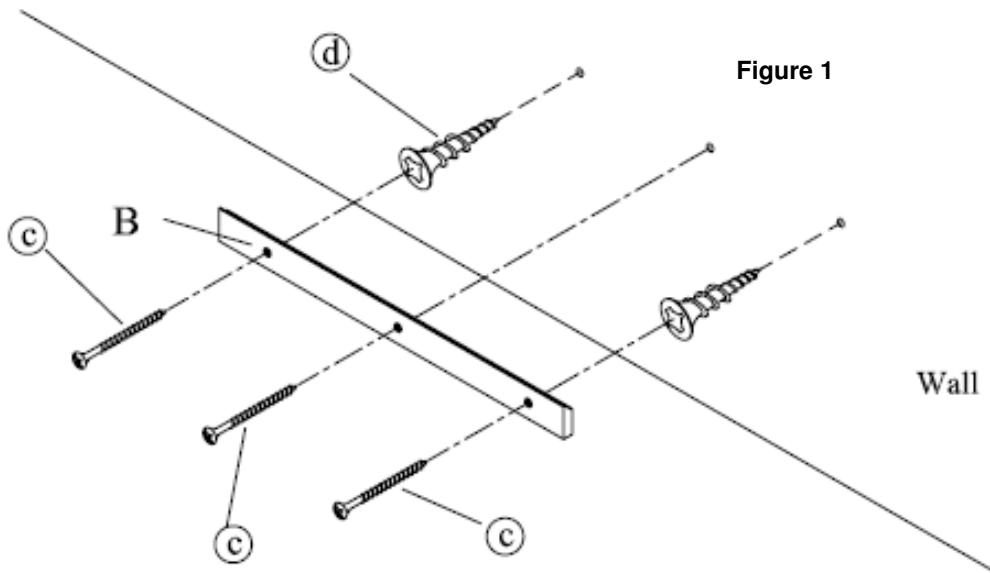

Figure 1
3. Back at the wall, use the tape measure to make a line below the line you drew in step (1). Make this lower line so that it is spaced a distance equal to measurement "A". Use the level again just to make sure that this lower line is level.
7. Hold the wall cleat against the wall so that the sharp edge is facing UP and AWAY FROM the wall, as shown in **Figure. 1** below. Use a screwdriver to secure a provided screw into each hole of the cleat and into either an awaiting installed anchor, or directly into the wall if the hole aligns with a wall stud. Rotate each screw clockwise until tight.